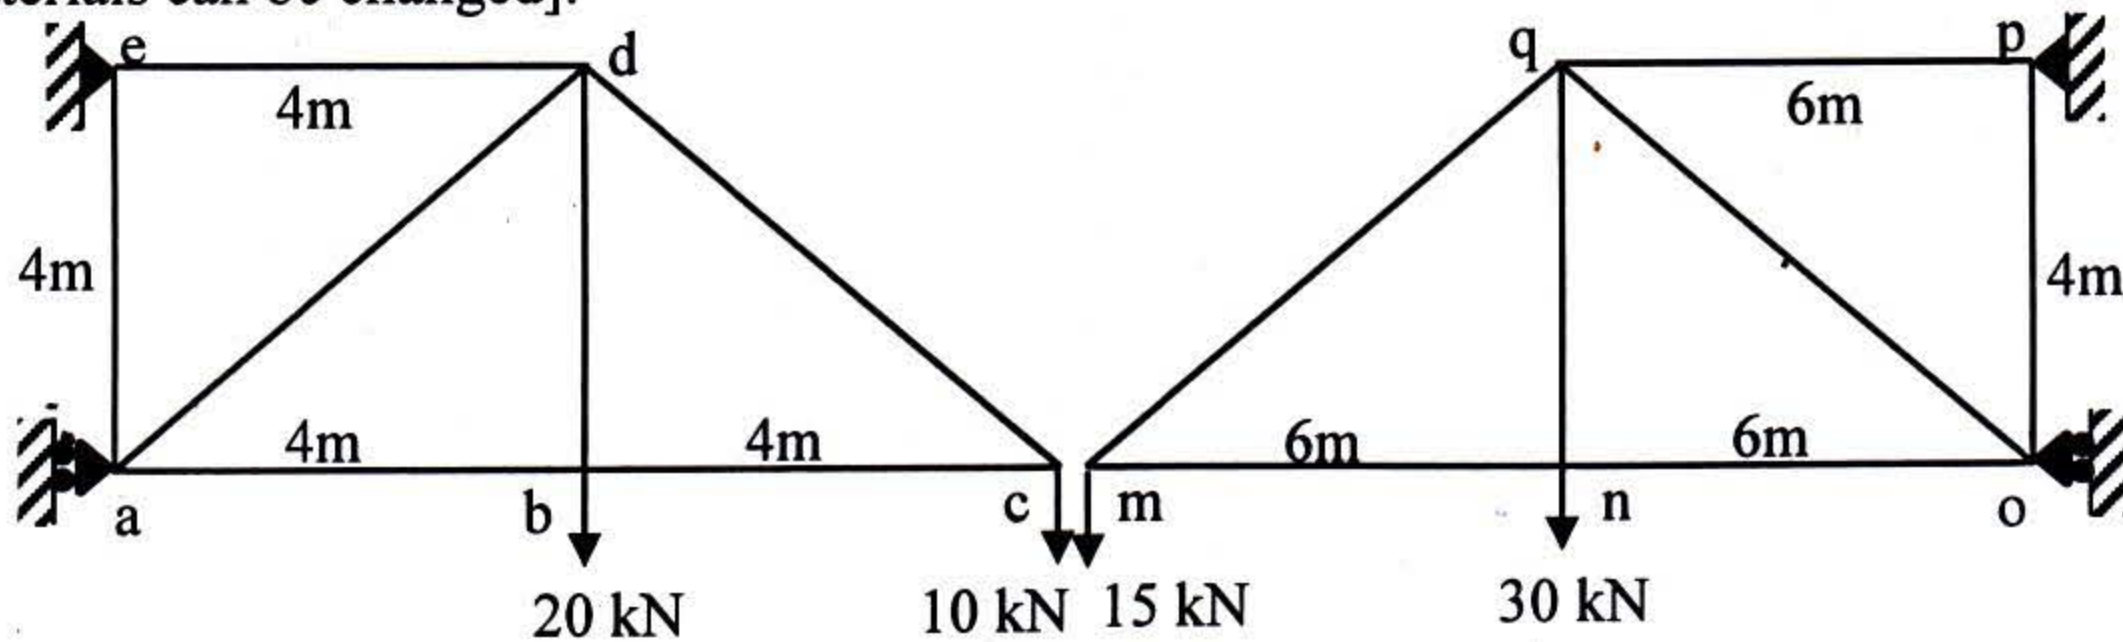
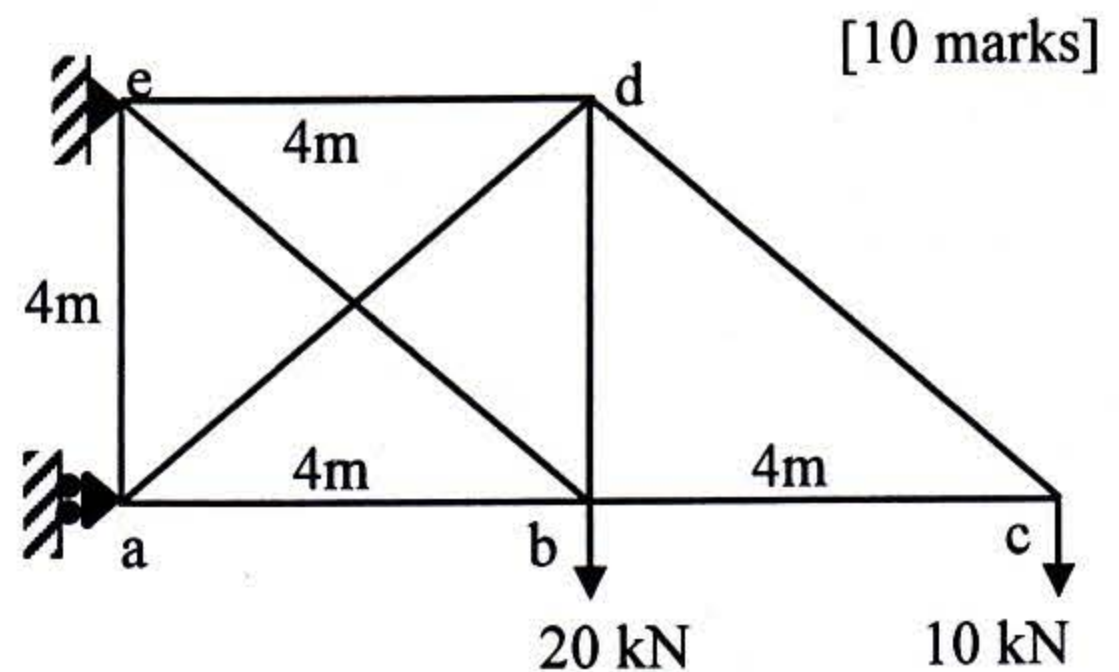

Figure 2: Truss of cantilever bridge
Figure 3(b): Indeterminate truss
A prototype of pedestrian bridge is constructed with two cantilever steel trusses as shown in **Figure 2**.
- b. Apply force method to analyze the truss shown in **Figure 3(b)** (member force of primary truss could be same as truss shown in Figure 2)